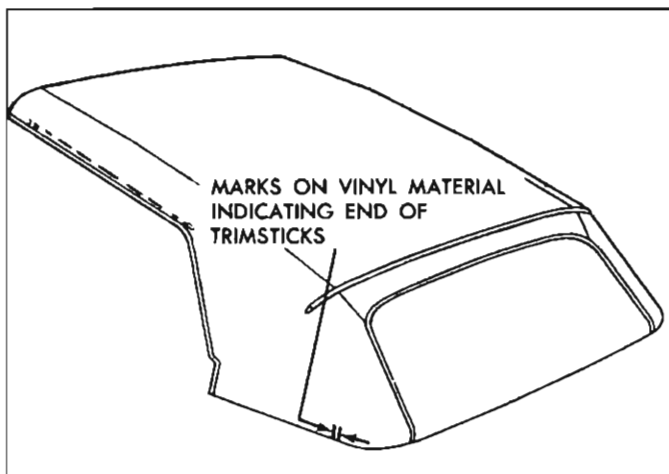

Fig. 45—Marking Top Material
12. Using a pencil, mark both ends of rear and rear quarter trim sticks on vinyl surface of top material (fig. 45). Reference marks for trim sticks should be transferred to new top material when step 27 of installation procedure is performed.